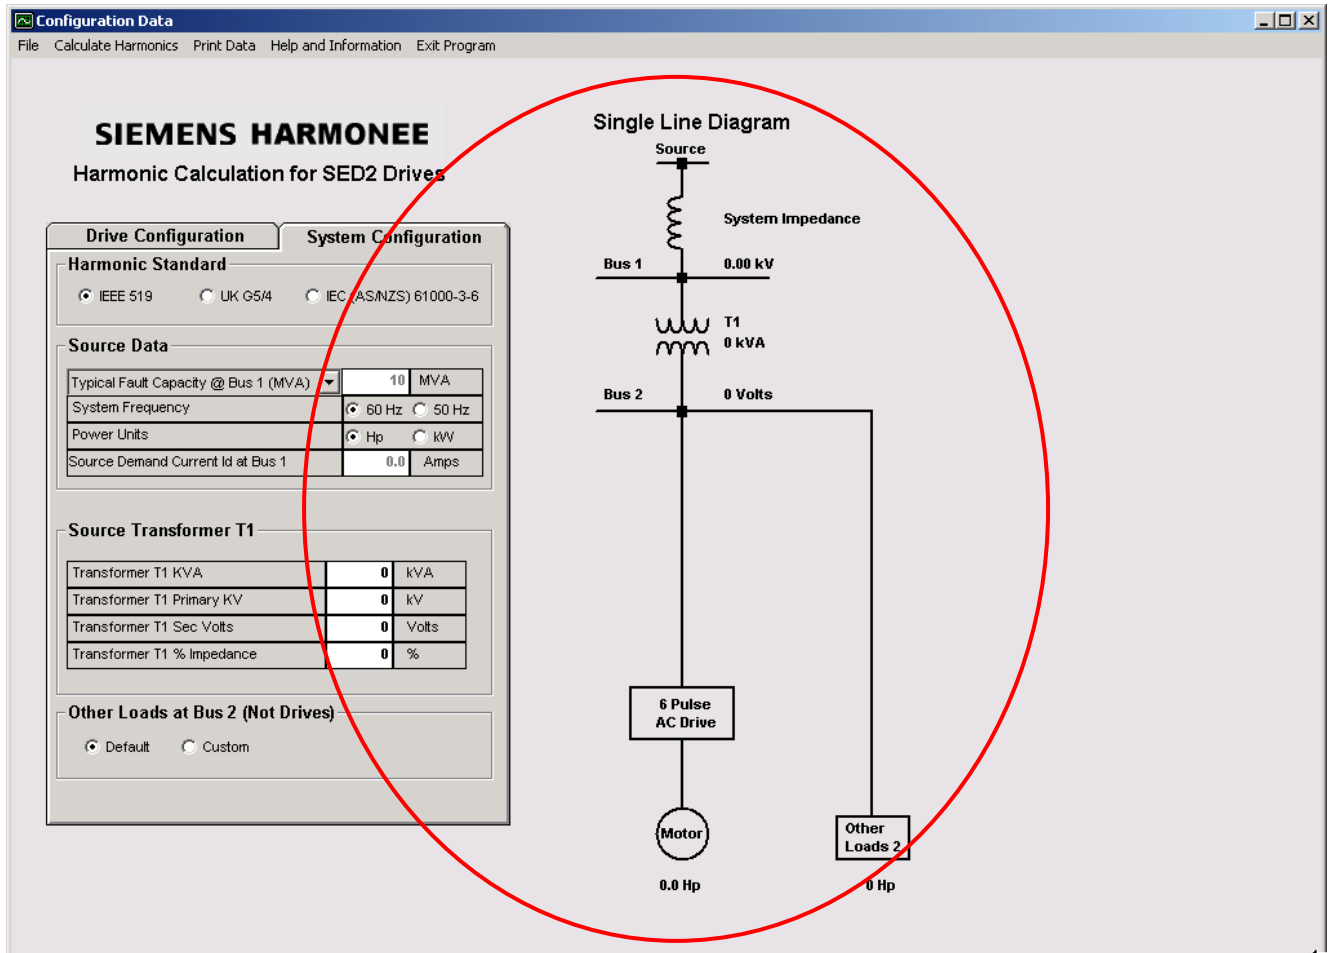

Figure 2 -- Single Line Diagram
- On the right is a **Single Line Diagram** of the electrical system. Once you input the system variables, this data is inserted and displayed into the system diagram. (See Figure 2)